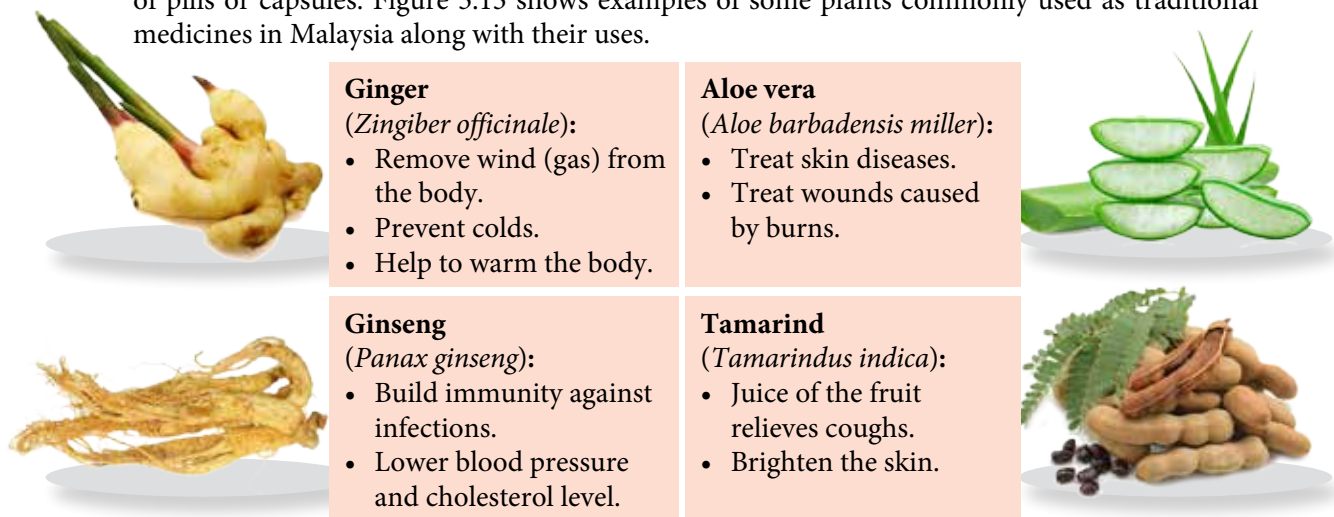

Figure 5.13 Examples of plants usually used as traditional medicines in Malaysia
- Nowadays, traditional medicines have evolved through processing, and marketed in the form of pills or capsules. Figure 5.13 shows examples of some plants commonly used as traditional medicines in Malaysia along with their uses.